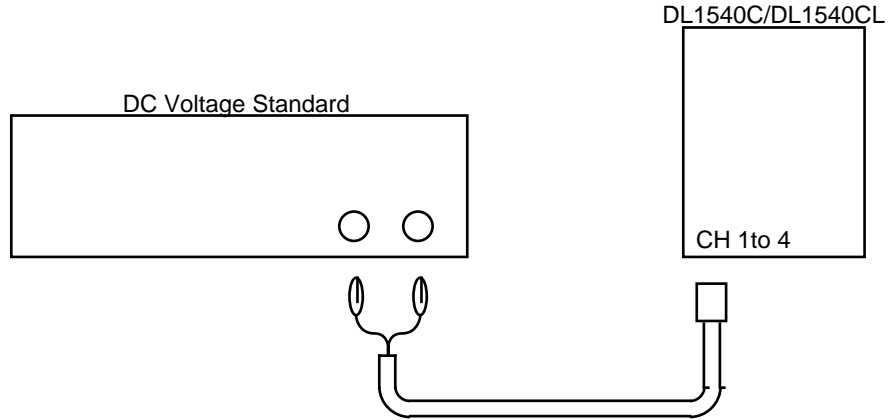

Figure 3.1 Connection Method
- 3) Connect each instrument as shown in Figure 3.1 Connection method.